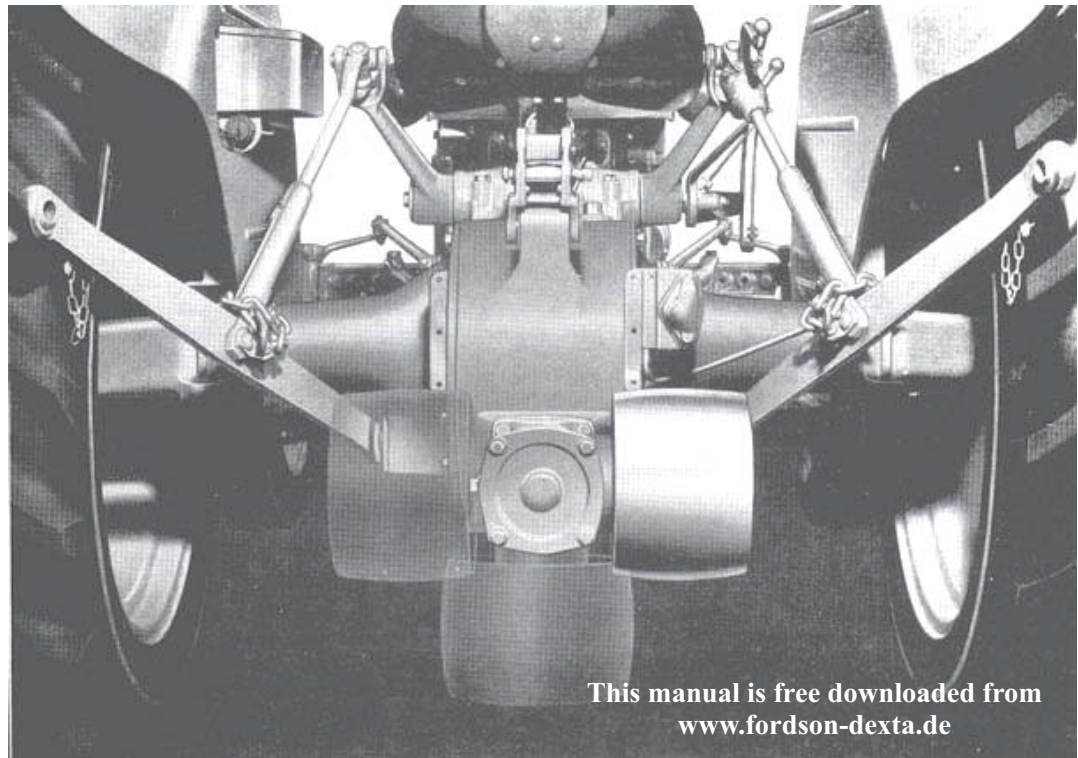

Fig. 6
Belt pulley operations can be carried out with the pulley assembly installed on the tractor in any one of three positions—horizontally left, horizontally right or downwards (see Fig. 6) except on tractors equipped with a pick-up hitch when only the two horizontal positions should be used. The horizontal left- and right-hand mounting positions give clockwise and anti-clockwise pulley rotation respectively, viewed from the left-hand side of the tractor. Under no circumstances must any attempt be made to
2. Detach the lower link check chain brackets from the rear transmission housing and secure the brackets to their respective lower links (see Fig. 6). If the pulley assembly is to be used in a horizontal position